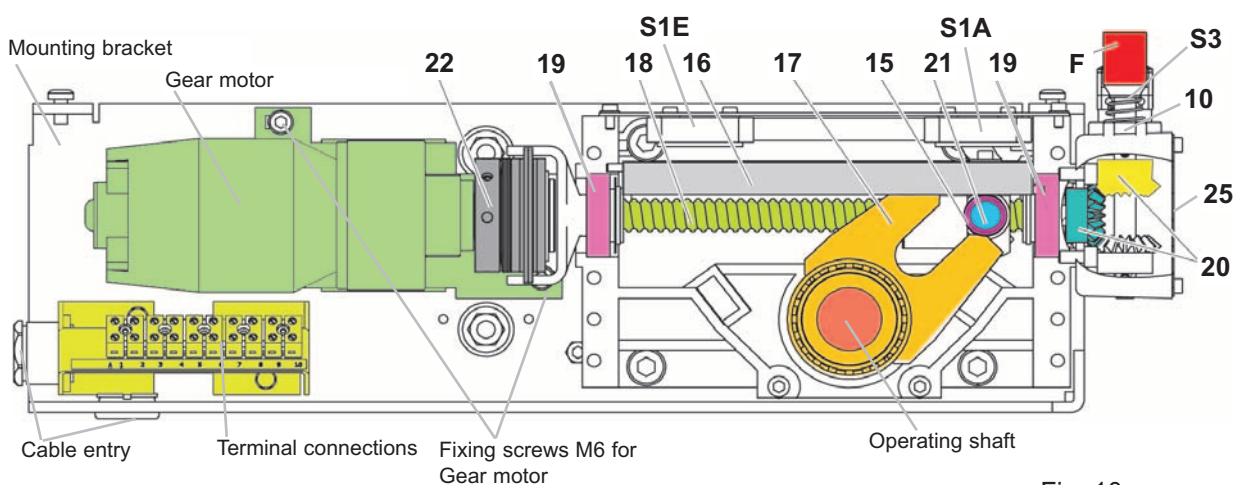

Fig. 10
After 10000 switching cycles or 10 years	<ul style="list-style-type: none"> <li>• Activities as described under annual.</li> </ul> Lubricate the following components of the motor drive with the lubricant Isoflex NBU 2 (see chapter 7.1) so that the interacting components are sufficiently lubricated: <ul style="list-style-type: none"> <li>• Guide rollers (15) on both sides, driver pin (21) inclusive guide rails (16) on both sides and connecting fork (17)</li> <li>• Ball and screw spindle drive (18) and both rolling-contact bearing (19)</li> <li>• Bevel gearing (20) and shifting sleeve (10) at the emergency manual drive (it is necessary to remove the covering (25))</li> <li>• All moveable parts</li> <li>• Function check of the auxiliary switches (S2A and S2E, see Fig.: 1), protective motor switch (P), Emergency hand pilot switch (S3, see Fig.: 10), Heating with Thermostat (K)</li> <li>• Carry out a functional check (see chapter 4.2.5).</li> </ul> <p>Attention: For the friction clutch (22) to work properly, it must not come into contact with lubricant.</p>